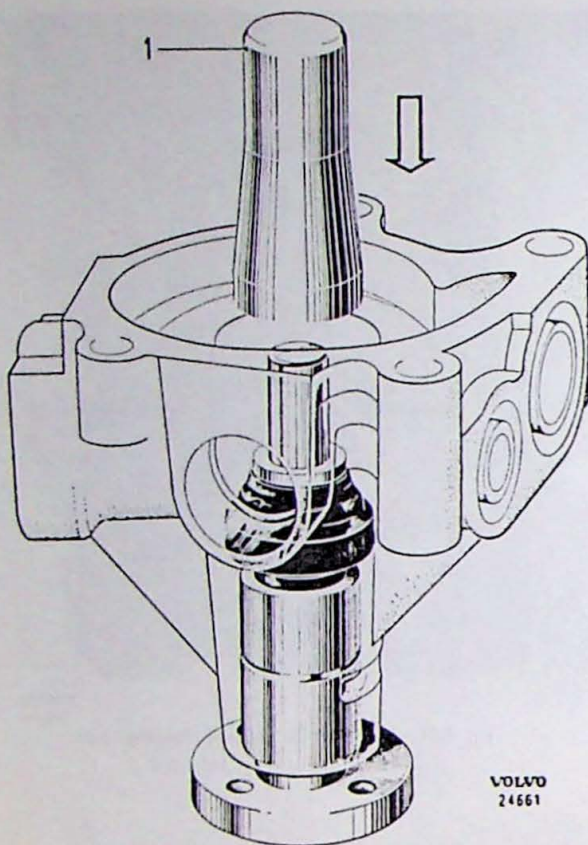

Fig. 1-86. Fitting the seal ring
3. Fit the seal ring with tool SVO 2430, Fig. 1-86. Fit the lock spring.